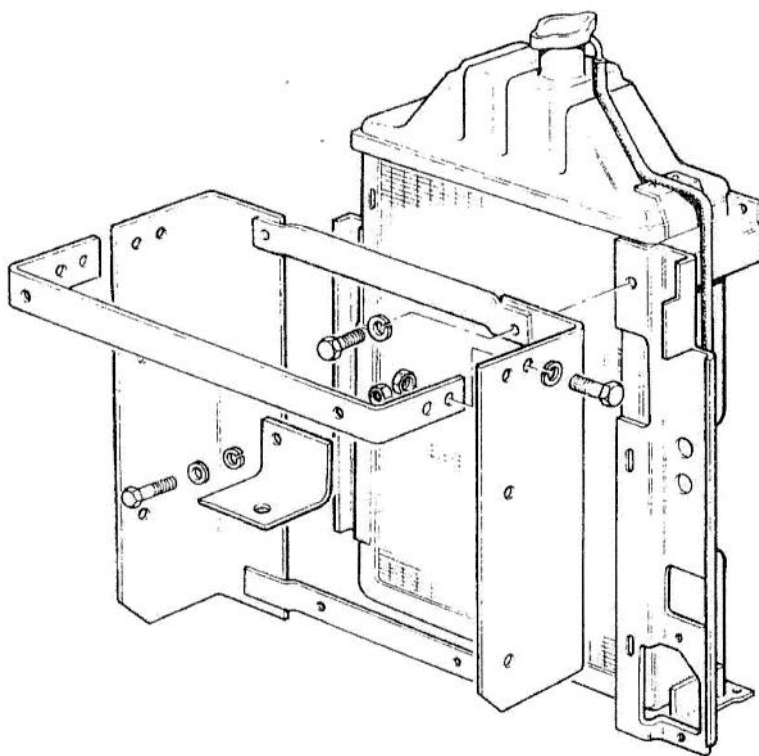

FIG. 3
8. (Fig. 3) Remove four bolts and washers securing the air cleaner and oil cooler support frame to the radiator support frame panels. Move the support frame, complete with air cleaner, hydraulic oil cooler and torque converter oil cooler (where fitted) clear of the radiator.